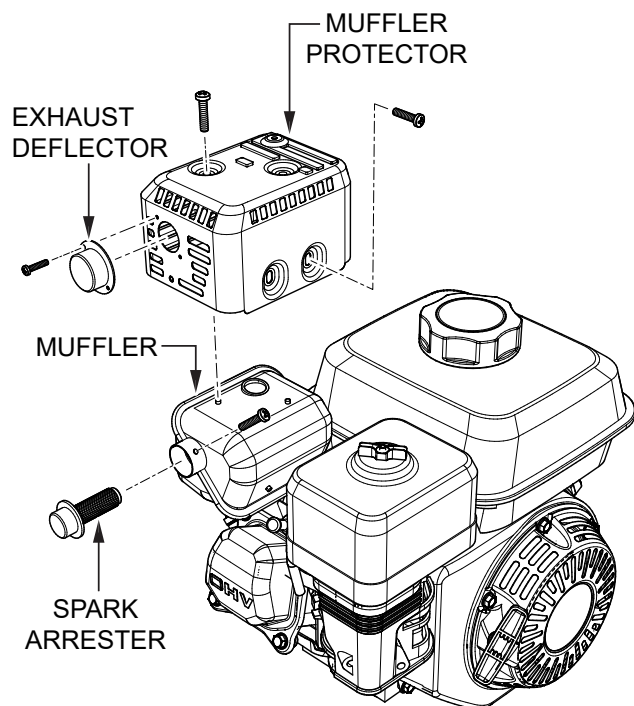

Figure 55. Spark Arrester Removal
1. Remove the screws that secure the exhaust deflector to the muffler protector, then remove the exhaust deflector (Figure 55).
2. Remove the screws that secure the muffler protector to the muffler, then remove the muffler protector (Figure 55).
3. Remove the screw securing the spark arrester to the muffler, then remove the spark arrester (Figure 55).